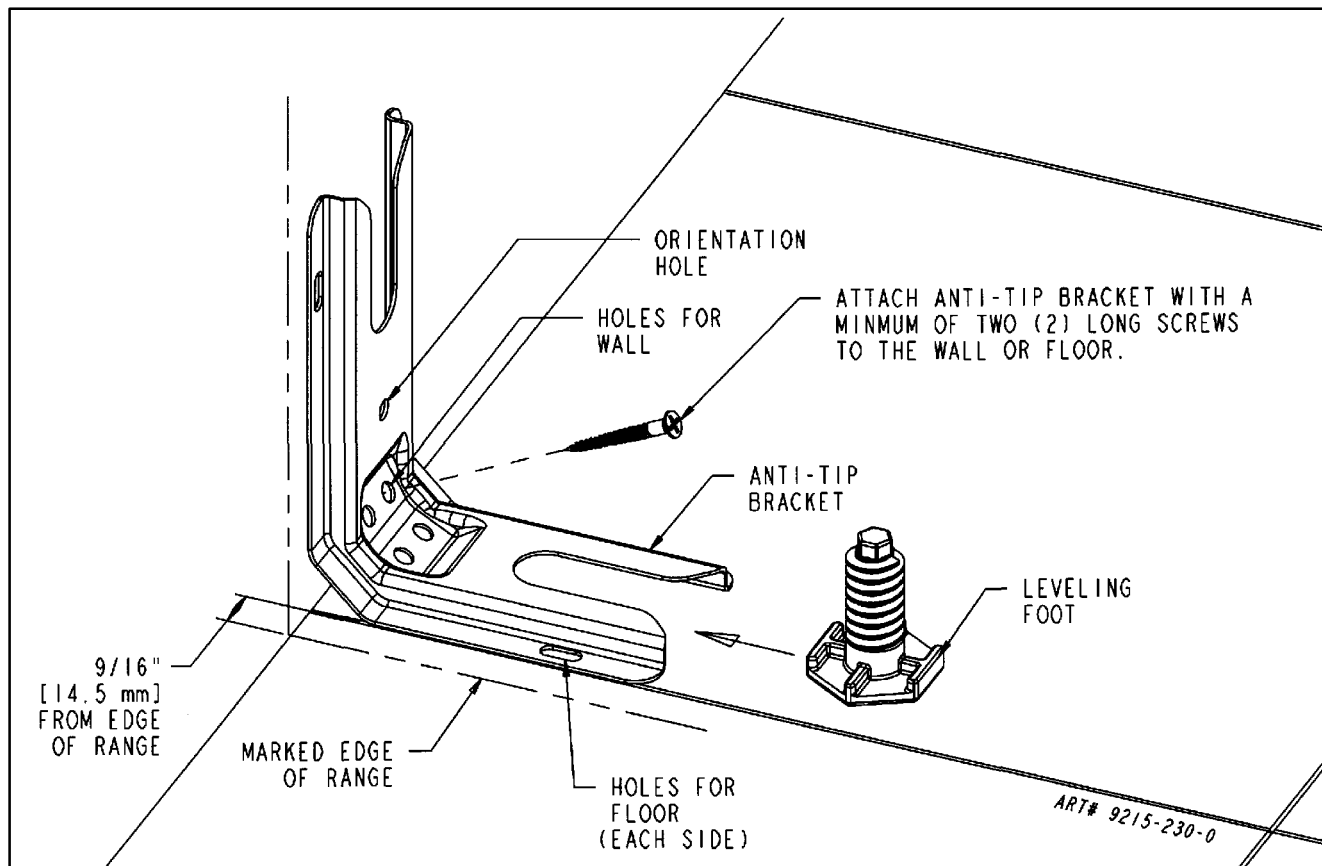
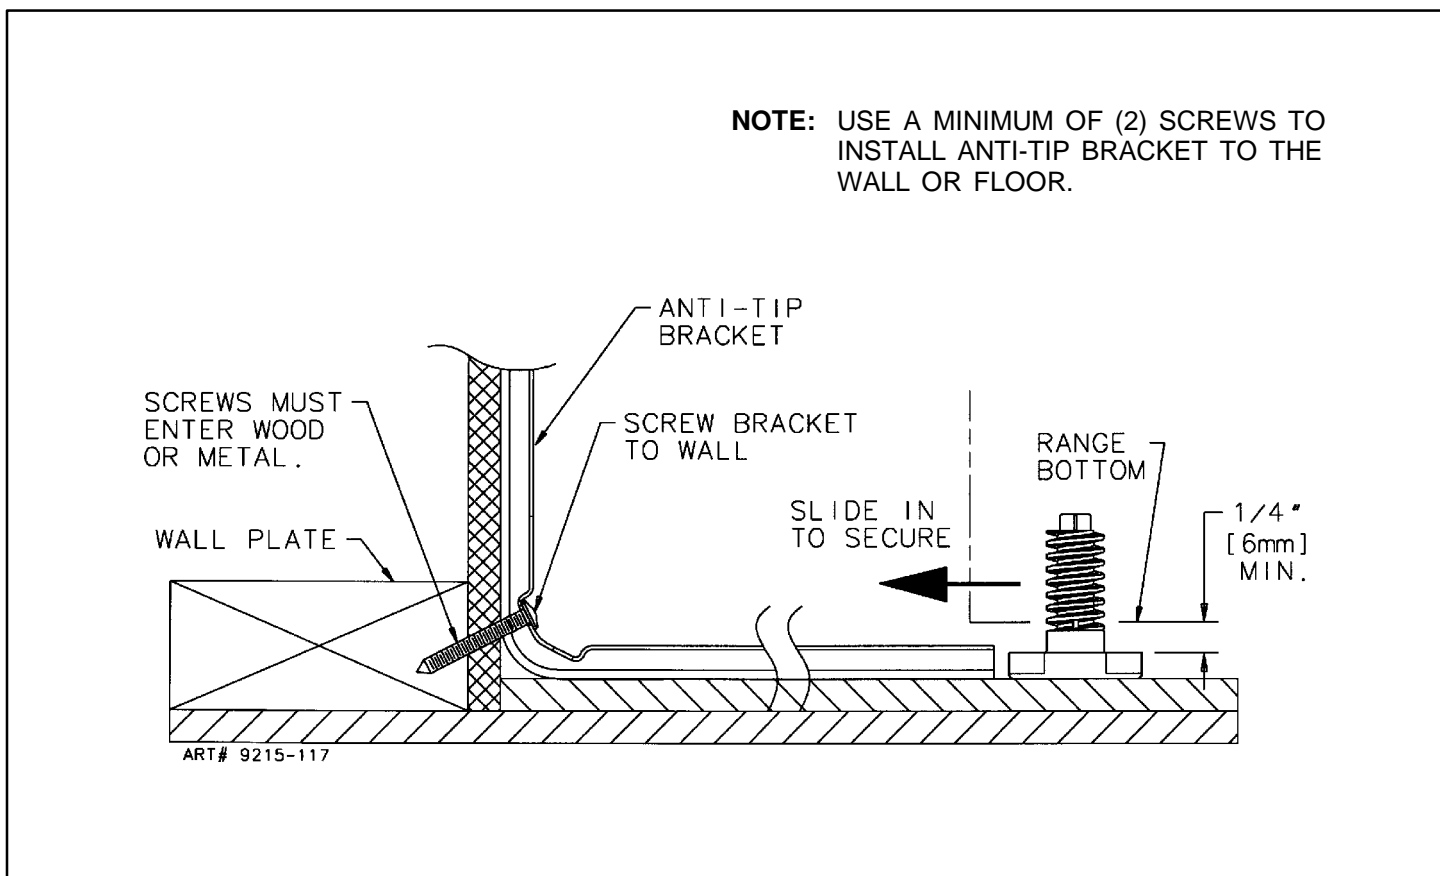

FIGURE 3
FIGURE 4
STEP 1 - Locating The Bracket (See Figure 3)
- Place the BRACKET 9/16" (14.5 mm) from the marked "EDGE" toward center of opening and against the back wall, as shown in figure 3, with orientation hole against wall.
- Use the bracket as a template and mark the required holes, as shown in figure 3 for the type of construction you will be using.
- Floor:** Locate the center of the two holes identified in figure 3 as "HOLES FOR FLOOR". Drill a 1/8" (3 mm) pilot hole in the center of each hole (a nail or awl may be used if a drill is not available). Secure the ANTI-TIP bracket to the floor with the two screws provided. Proceed to Step 3.
- Wall:** Locate the center of the two holes identified in figure 3 as "HOLES FOR WALL". Drill an angled 1/8" (3 mm) pilot hole in the center of each hole as shown in figure 4. (A nail or awl may be used if a drill is not available). Secure the ANTI-TIP bracket to the wall with the two screws provided as shown in figure 4. Proceed to STEP 3.
- Suitable screws for concrete construction can be obtained at the hardware store. Drill the required size hole for the hardware obtained into the concrete at the center of the holes identified in figure 3 as "HOLES FOR FLOOR". Secure the ANTI-TIP bracket to the floor. Proceed to STEP 3.
Note: A minimum clearance of 1/4" (6mm) is required between the range and the leveling foot that will engage the anti-tip bracket, (see figure 4).